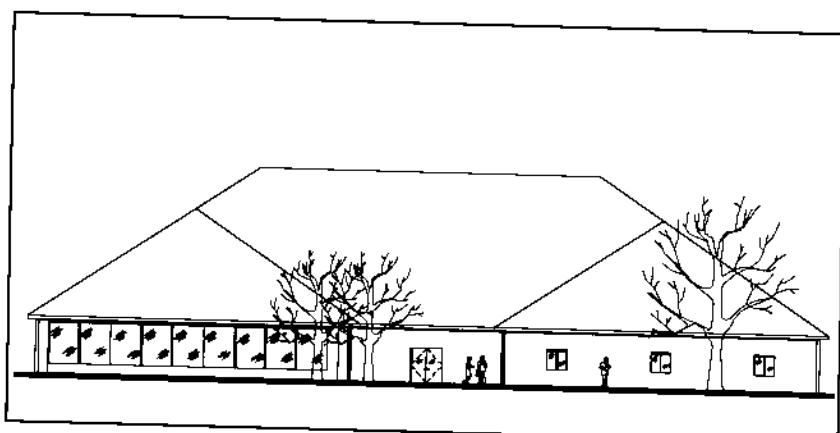

Figure 16.
1. A finished version of the drawing with additional elevation symbols is shown in Figure 16.